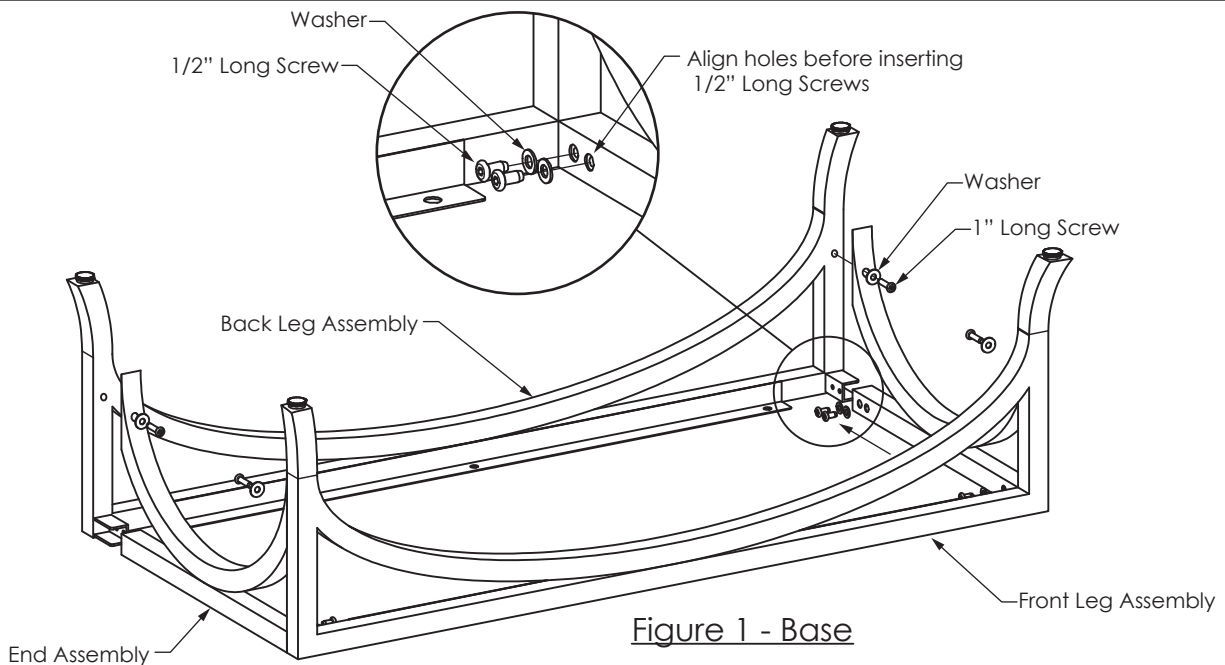
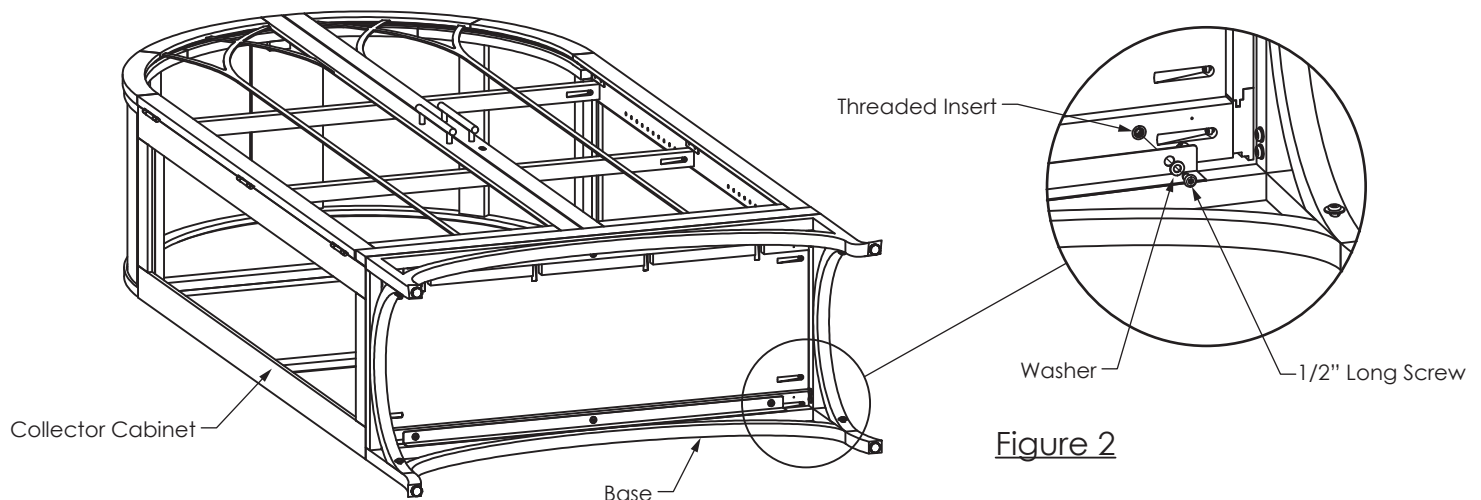

Figure 1 - Base
Figure 2
2. Assemble the End Assemblies to the Front and Back Leg Assemblies using 1/2" Long Screws and Washers as shown in Figure 1 at each of the four corners.
3. Attach the 1" Long Screws and Washers at four (4) locations shown in Figure 1.
4. Lock the Collector Cabinet door. With two (2) adults, choose a location for the Collector Cabinet and gently lay it on its back on a flat and clean surface.
6. Locate the Threaded Inserts on the bottom of the Collector Cabinet and align with the holes on the Base. Attach the Base with 1/2" Long Screws and Washers as shown in Figure 2 at six (6) locations.